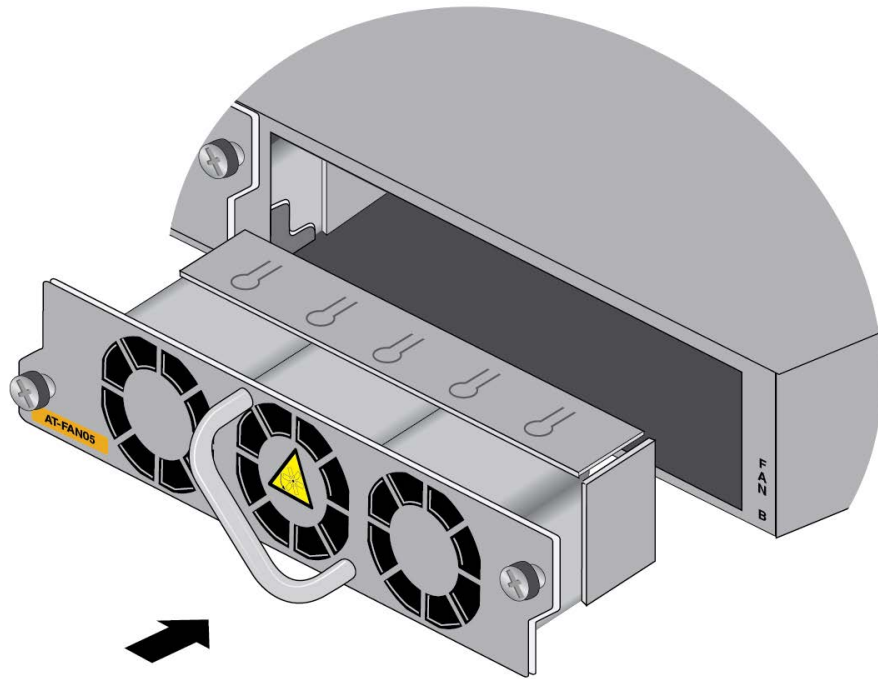

Figure 144. Aligning the AT-FAN05 Module in the Switch Slot
2. Align the fan module in the slot. Refer to Figure 144 on page 214.